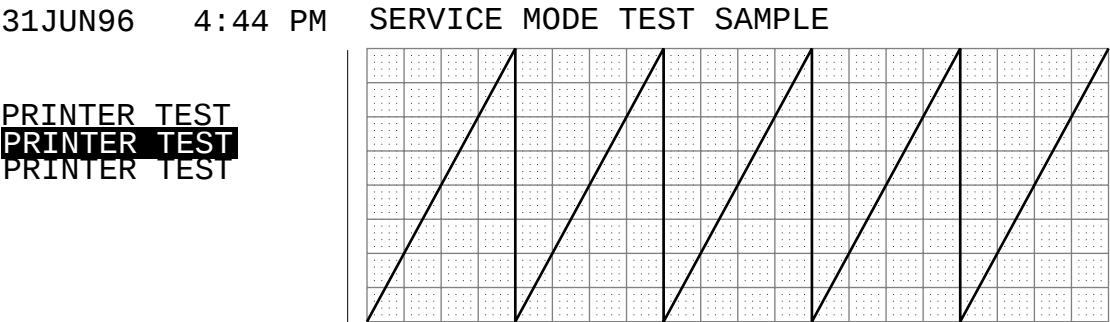

Figure 3-8: Waveform Test Printout
2. Press softkey #2, “WAVEFORM TEST”. Verify that a sample waveform prints as illustrated in Figure 3-8.